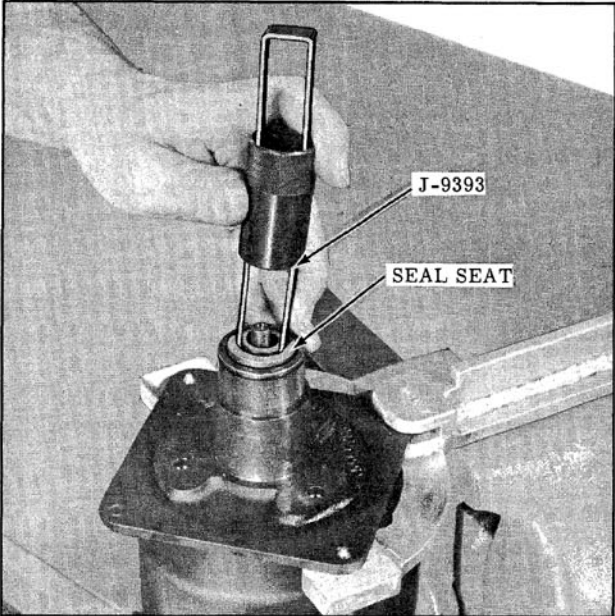

Fig. 14-103 Removing Seal Seat
4. Remove the seal seat with Tool J-9393 as shown in Fig. 14-103.